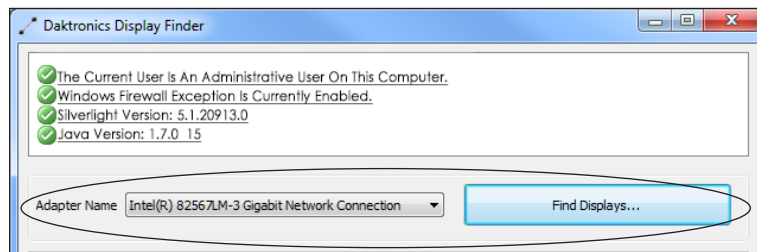

Figure 18: Network Adapter Selection
1. Select the correct network adapter used to communicate with the display from the **Adapter Name** drop-down menu. Refer to **Figure 18**.